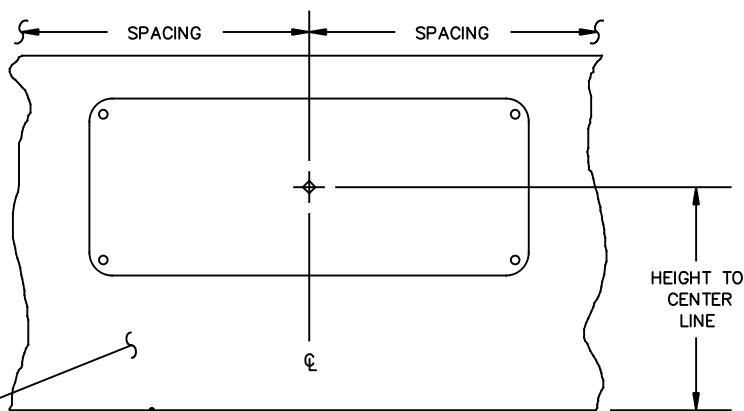

FIG. 2
5. Position and level template over housing centerline from step 4 per fig. 2. Mark hole locations for 3" locating studs using template as a guide.